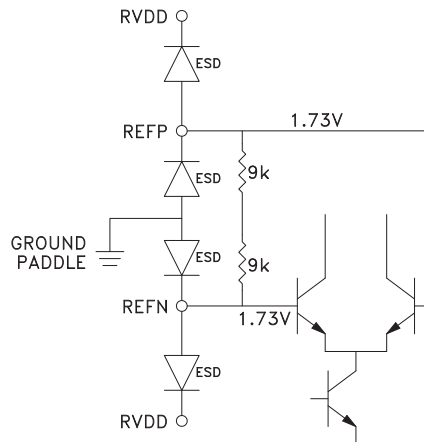

Figure 8. Reference Path Input Stage
The reference input provides the path from the external reference source to the phase detector. The input stage of the reference path is shown in Figure 8. HMC700LP4(E) is a DC coupled, common emitter differential NPN buffer. Input pins have 1.8V bias on them. Expected input is full swing 3V CMOS. Slightly degraded phase noise performance may result with quasi sine or sine inputs. Input reference should have a noise floor better than -155 dBc/Hz to avoid degradation of the input reference path. The input reference path phase noise performance is approximately equivalent to -155 dBc/Hz. This input should be well isolated from the VCO for best spurious performance in fractional mode.